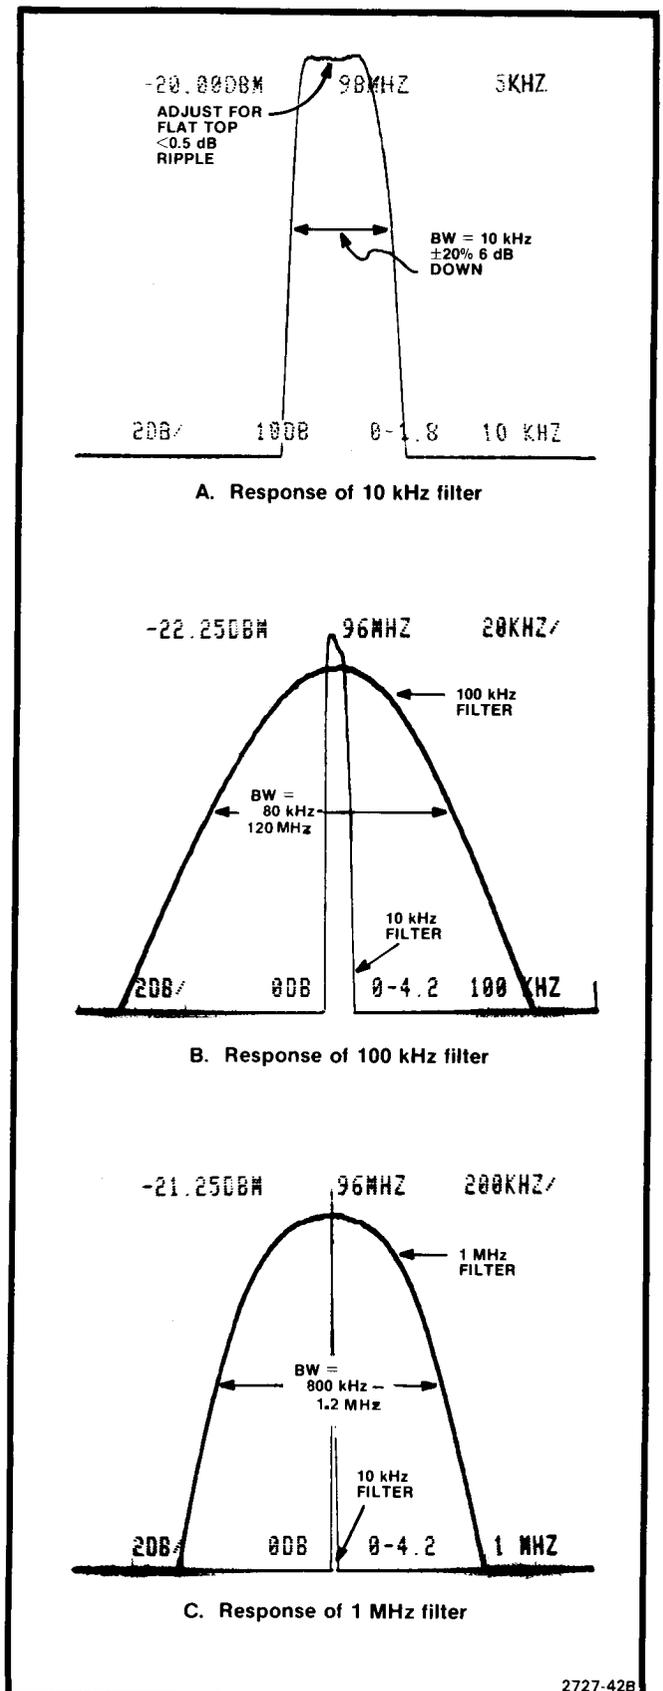

Fig. 3-40. Typical response of 10 kHz, 100 kHz, and 1 MHz bandwidth filters.
v. Check the waveshape, bandwidth, and centering of all filters. Center the 100 kHz and 1 MHz filter response around the 10 kHz filter. If necessary, make only fine or minor adjustments. Figure 3-40 shows typical response shapes.